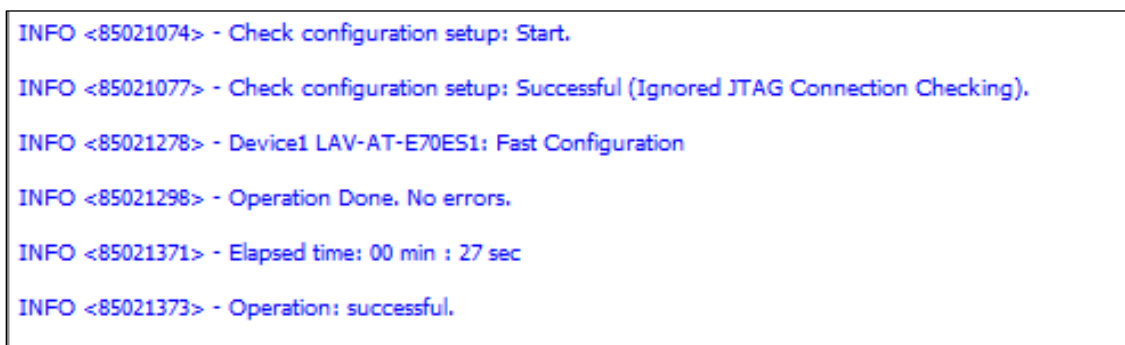

Figure 7.24. Radiant Programmer Console Output after Bitstream is Programmed
24. Click **OK** and Click the **Program Device** Icon or go to the menu item, **Run > Program Device**. Wait until the operation is successful as shown in Figure 7.24.